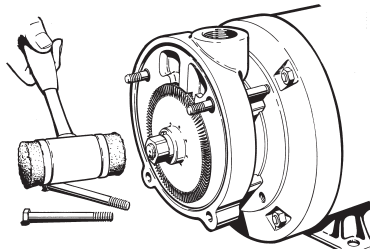

Figure 4
4. Remove the impeller (Ref. No. 5), refer to Figure 4. The impeller is a slip fit and, under normal conditions, can be removed by gently tapping on the end of the shaft sleeve with a mallet. Leave the impeller key (Ref. No. 13) in place. Striking the sleeve too hard could damage the seat or rotating element.